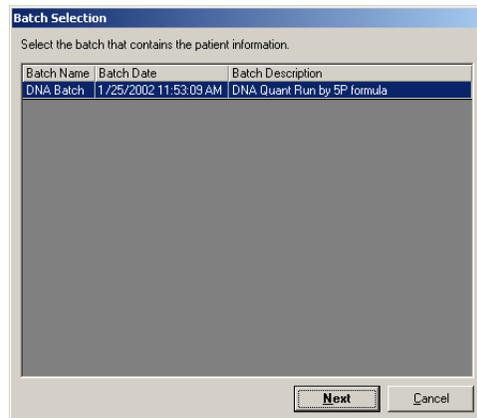

Figure 58 Batch Selection Dialog Box
2. Select the type of report that you want to print and click **Next**. For the Analyte, Clinical Patient, and Batch Summary Reports, the **Batch Selection** dialog box opens. Select the batch to print. See Figure 58. For the Quality Control, Maintenance, Calibration Trend, and System Control Trend Reports, a dialog box related to the specific report opens. The system information may vary depending on the type of report you select.